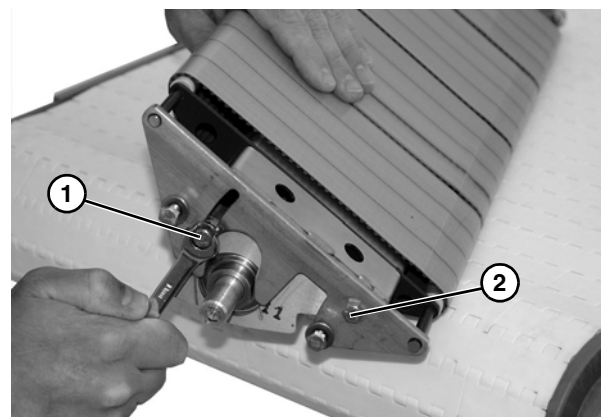

Figure 26
4. Remove screw (Figure 26, item 1) and loosen screw (Figure 26, item 2). Shaft assembly will collapse, removing tension from the power transfer belts.